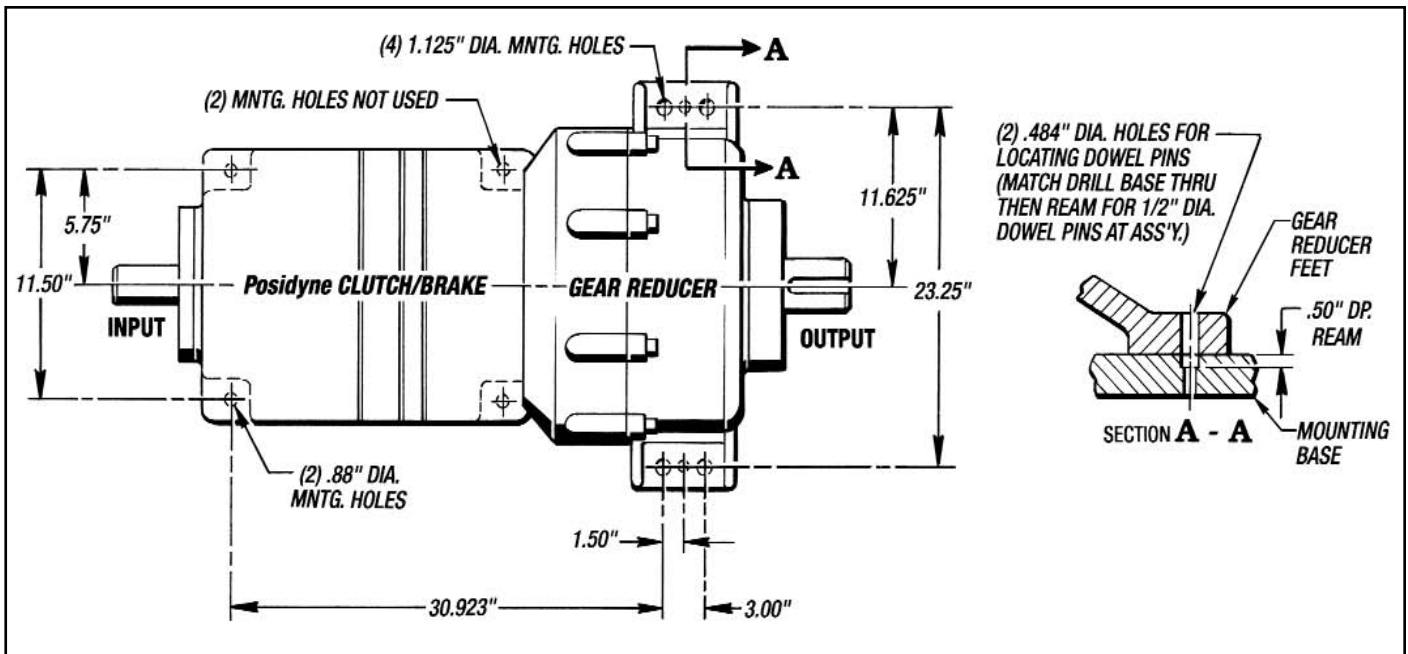

Figure 2 - Size 20P Posidyne Mounting Hole Layout and Mounting Dowel Pins Installation
The primary attachment to the machine frame or base must be done off the (4) mounting holes on the Planetary Gear Reducer. The (2) mounting feet on the *Posidyne* Output Housing are not used. A nominal 1/2" Spacer plus shims has to be used under the *Posidyne* Input Housing feet to take up the gap for vertical alignment. (See *Figure 2* for Mounting Hole Layout.) After final installation and alignment to driving and driven machinery is completed, (2) removable dowel pins must be installed under the Planetary Gear Reducer feet. (See Section E on next page for procedure.)
1. Drill (2) .484" Dia. holes through the machine base, using the (2) .484" Dia. holes in the feet of the Gear Reducer Main Housing (#800) as pilot holes as shown in Figure 2.
2. Final ream both holes to a light clearance fit for 1/2" Dowel Pins. Install (2) 1/2" x 1" Lg. Removable Dowel Pins.